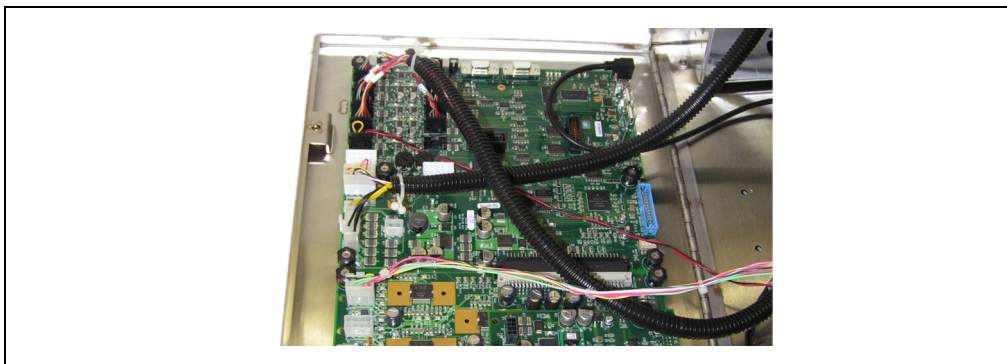

Figure 10-9. SP Horizontal Enclosure: Service Door Open
7. Loosen the thumbscrews on the service door of the SP and lower the door. The main SP electronics board is mounted on the inside of the door (see Figure 10-9).